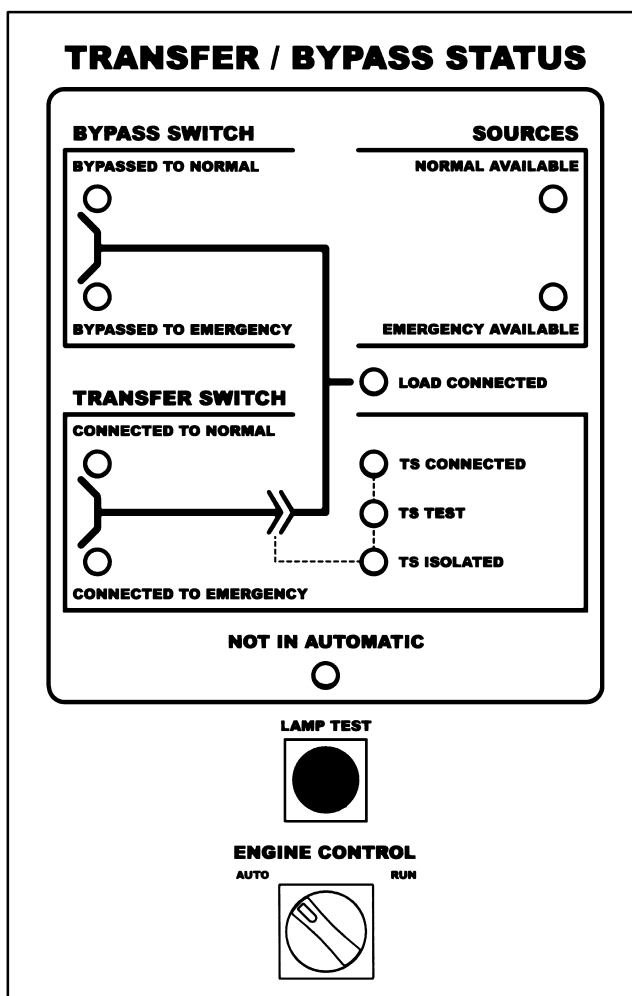
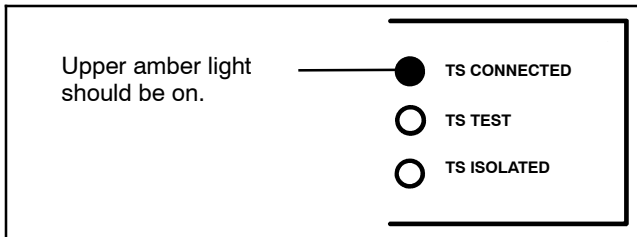

Figure 7-7 Status Lights and Engine Control
Figure 7-8 Status Lights for Transfer Switch Isolation Contact Position
- The TS Connected light must be on. See Figure 7-7 and Figure 7-8.